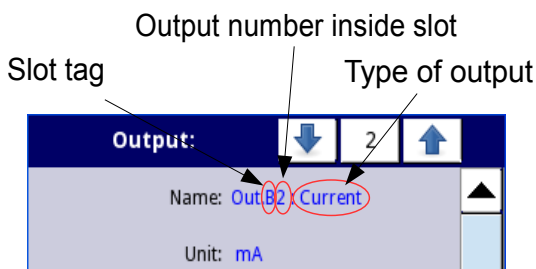

Fig. 7.78. Description of **Name** parameter in **Built-in outputs** menu
- **Name** - each output already has a name given by the device and user cannot change it, for description of **Name** parameter see **Fig. 7.78**,